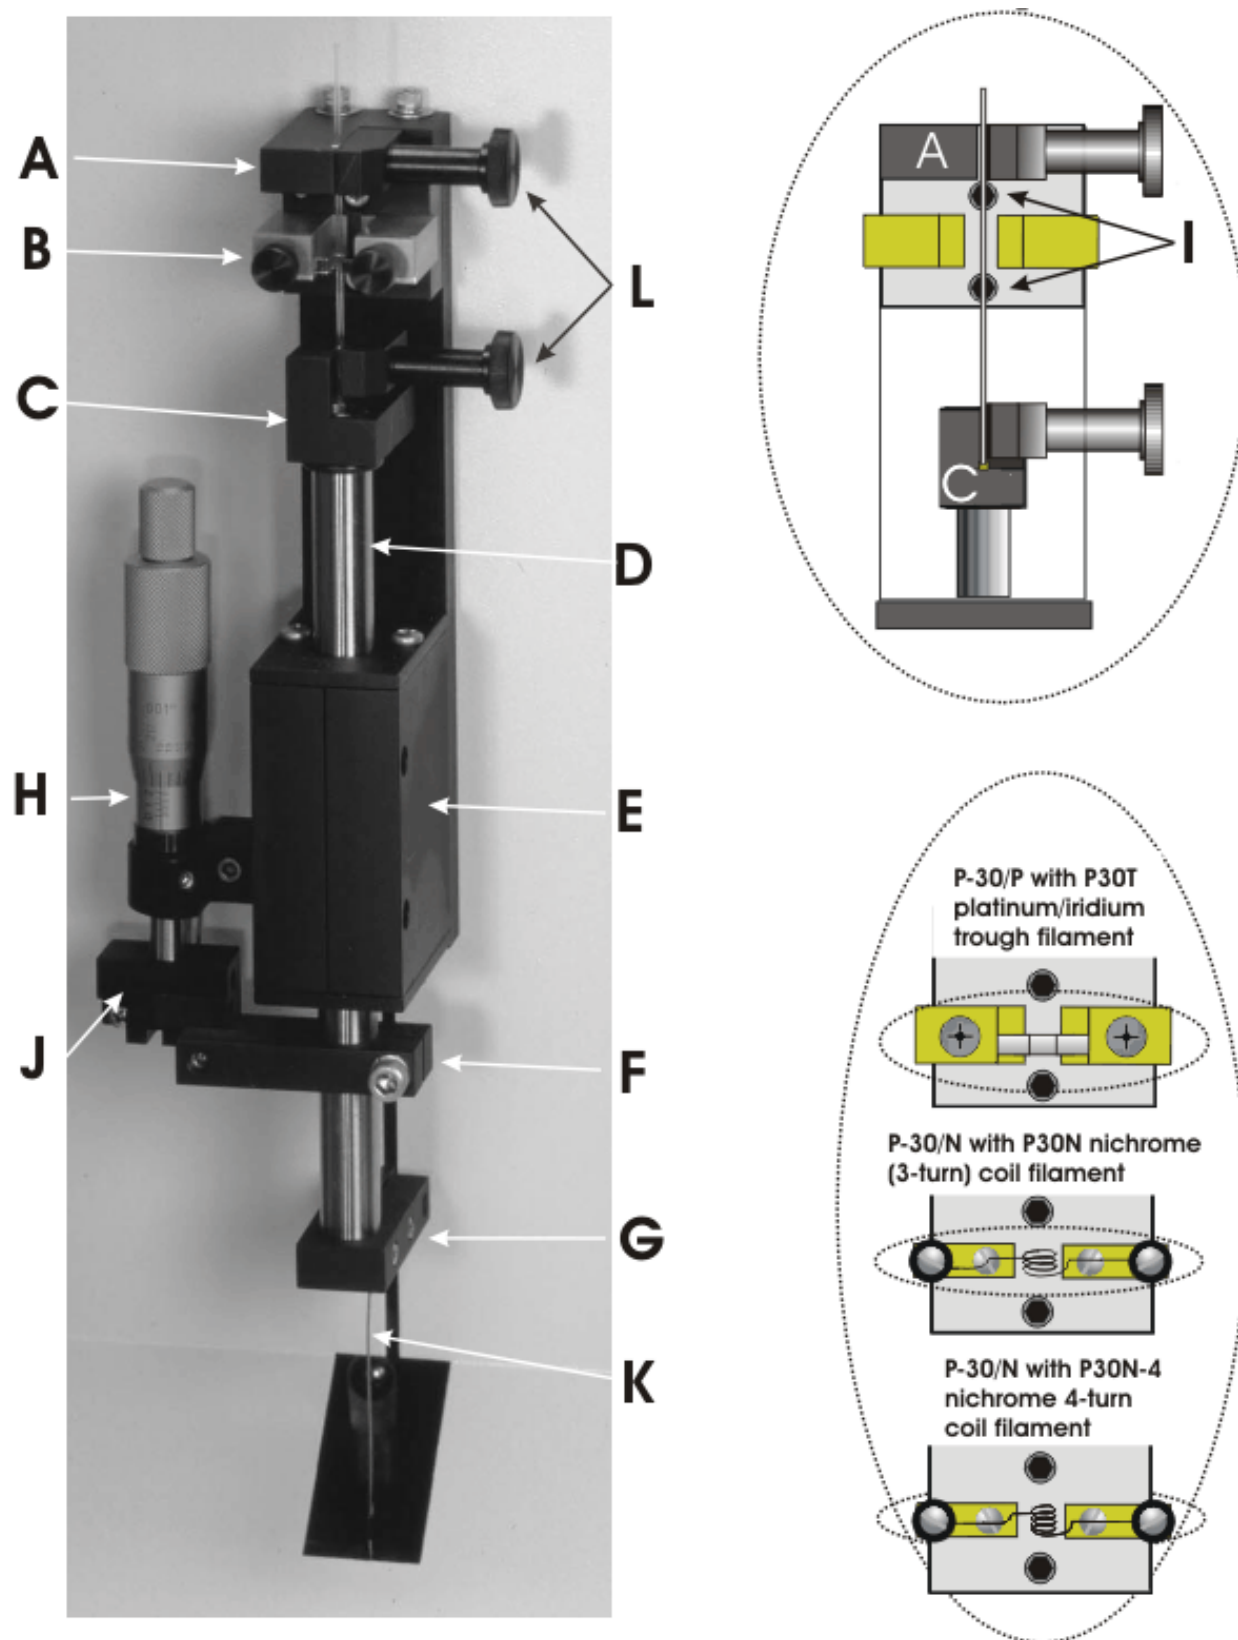

Figure 1-2. Puller electromechanical slide assembly with glass clamps and filament mounting detail.
The following names and describes the various parts of the electromechanical pull system. Knowing the names of the various parts greatly facilitates communication between the investigators and the manufacturer when discussing adjustments or service issues. The descriptions directly relate to the designations shown in Figure 1-2.
Before powering on the P-30, make sure that the rubber bands holding the two Glass Clamp Thumb Controls together (see 'L' in Figure 1-2) and the foam spacer at the bottom behind the Hard Pull Cable (see 'K' in Figure 1-2) are all removed. Failure to remove these items prior to use will impede the proper operation of the P-30.
**CAUTION:** Before powering on the P-30, make sure that the rubber bands holding the two Glass Clamp Thumb Controls together (see 'L' in Figure 1-2) and the foam spacer at the bottom behind the Hard Pull Cable (see 'K' in Figure 1-2) are all removed. Failure to remove these items prior to use will impede the proper operation of the P-30.